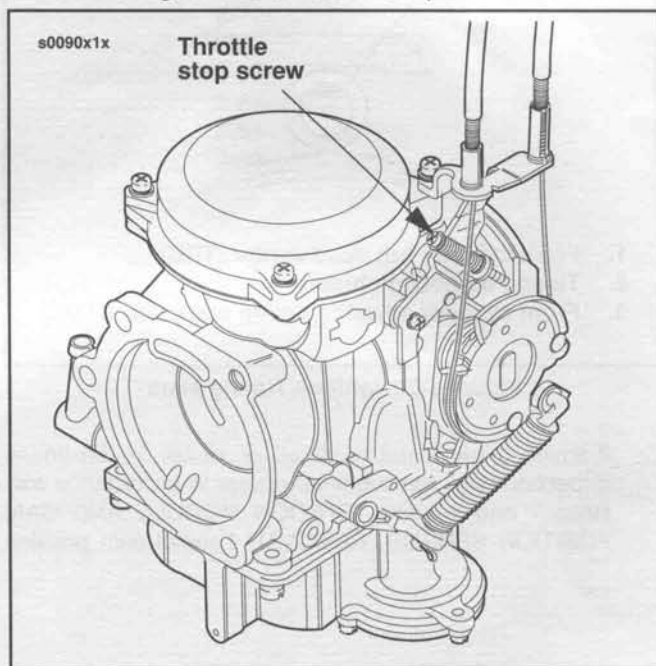

Figure 1-19. Carburetor
1. See Figure 1-19. With the engine at normal operating temperature and the enricher all the way in (enricher valve closed) adjust the throttle stop screw so the engine idles at 1000-1050 rpm.